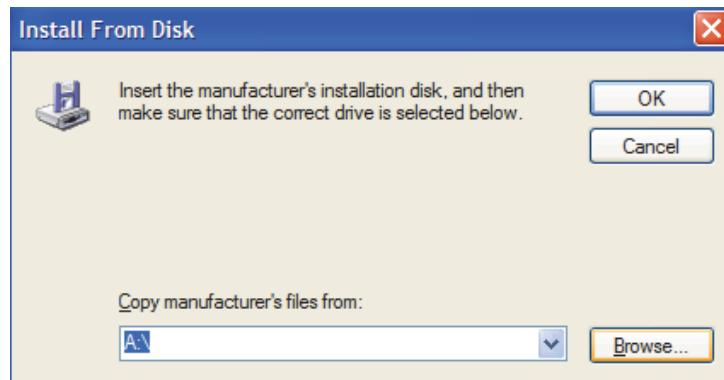

Figure 5-10. Install from Disk Dialog Box
7. Select **Browse**. See Figure 5-10.